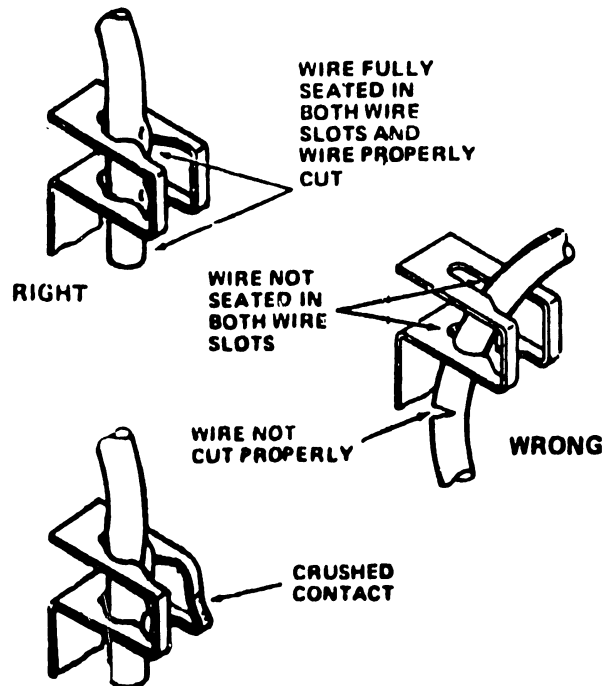

FIGURE 4-79
- 13) Inspect each termination, making sure that each wire has been FULLY inserted into BOTH wire slots of its contact (Ref: Figure 4-79), and that all wires have been cut to the proper length (no exposed wire strands should be visible). Also, make sure that the insulation is NOT cut in any area other than the slot insertion area. Finally, make sure that the contacts are not crushed or deformed (Fig. 4-79).